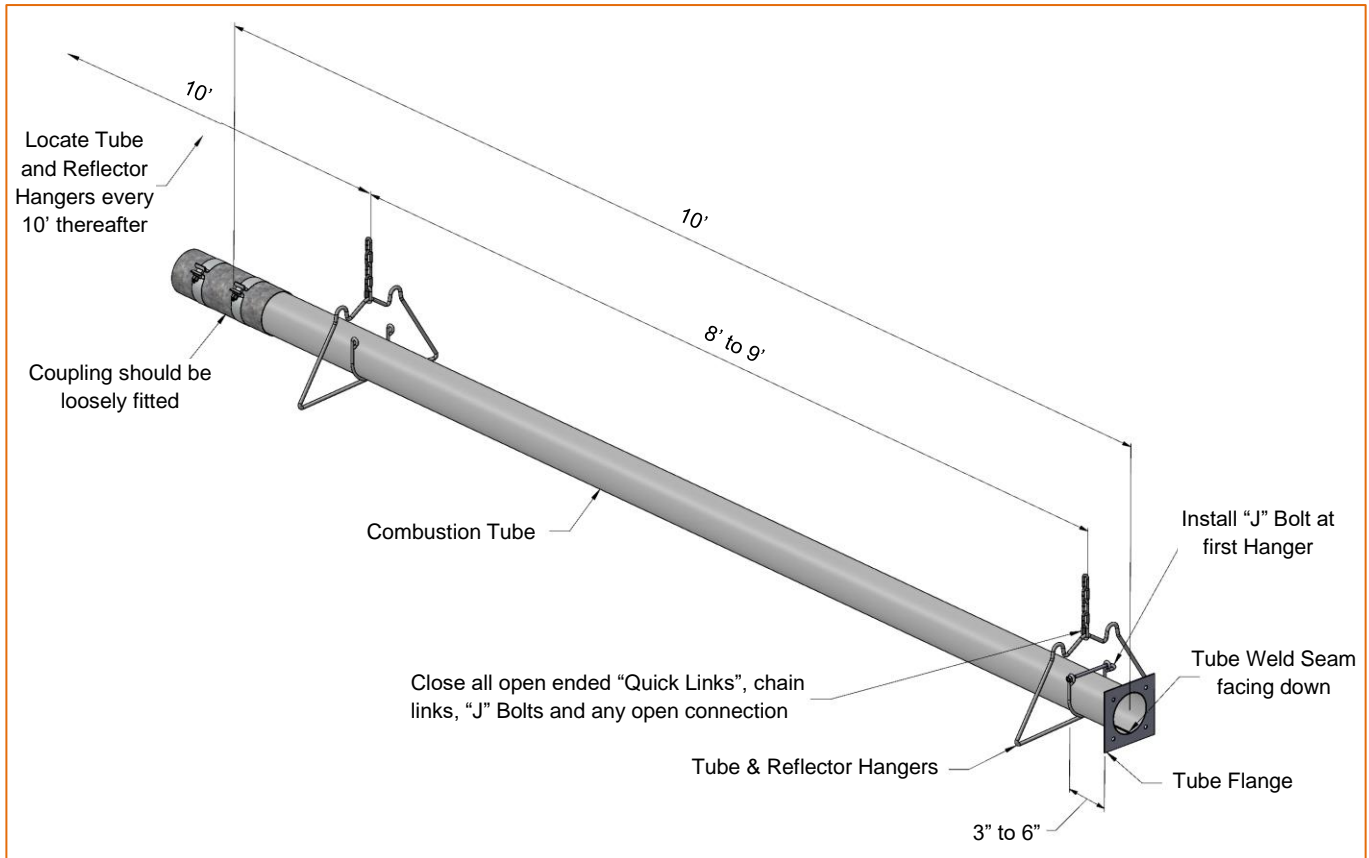

Figure 7: Installation of First Section of Flanged Tube
- Place the first (flanged, aluminized) tube in the first two hangers (Figure 7). Be sure the flange is toward the intended burner location. The other end of the tube should have the first coupling already loosely fitted.
- Always use all the hangers supplied. As a rule the combustion tube (first tube) utilizes 2 hangers and thereafter 1 hanger per 10' section. It is required that the first hanging point be 3" to 6" from the burner mounting flange, and tube weld seam must face down; refer to Figure 7 for more details.